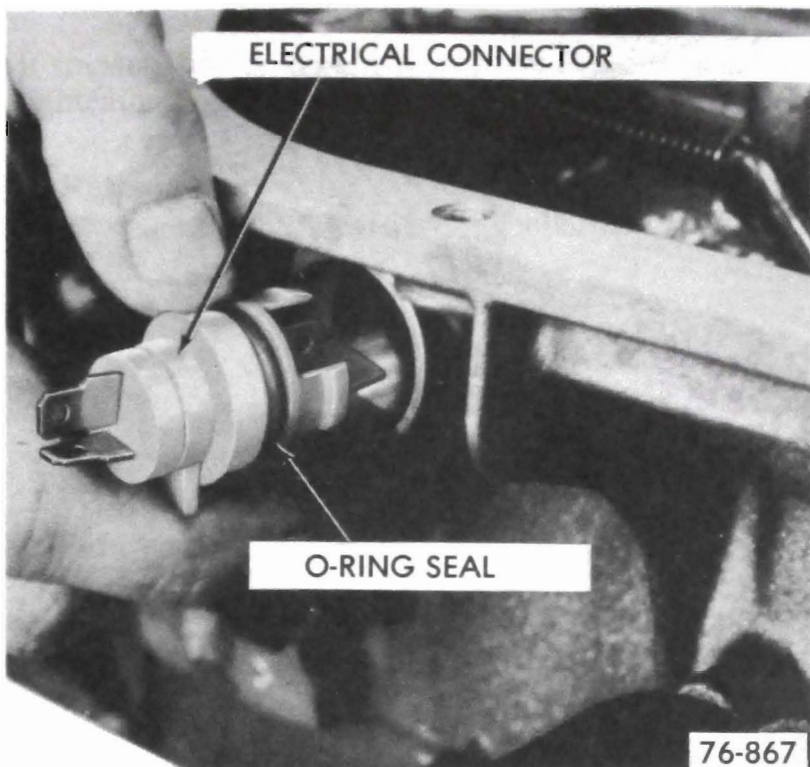

Figure 76-269
11. Install connector with lock tabs facing into case, positioning locator tab in notch on side of case. See Figure 76-269.